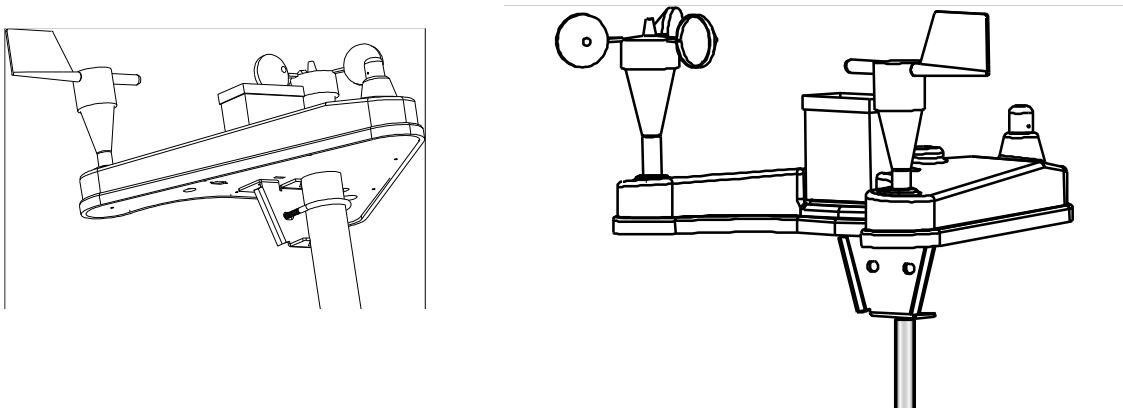

Figure 7 U-Bolt Nuts
3. Loosely tighten the U-bolt nuts so that the weather station is stable but can be rotated on the mast/pole (Figure 7).